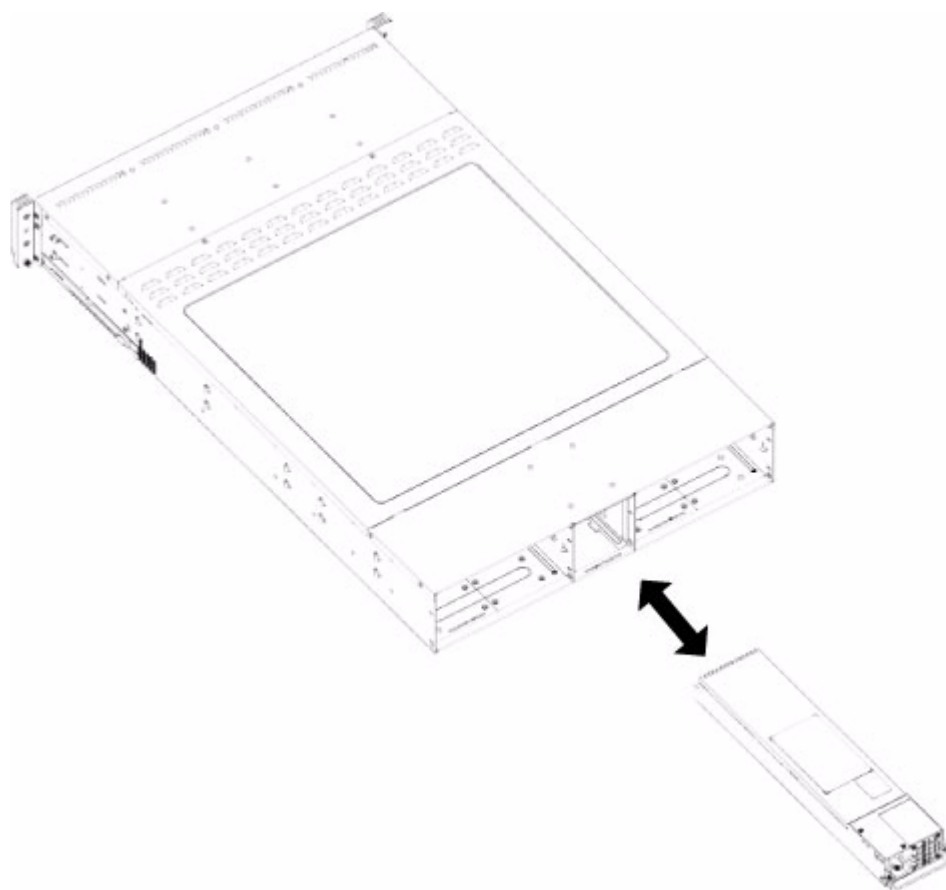

Figure 5-3 Removing the Power Supply
2. As shown in Figure 5-3, pull the power supply out using the handle provided.